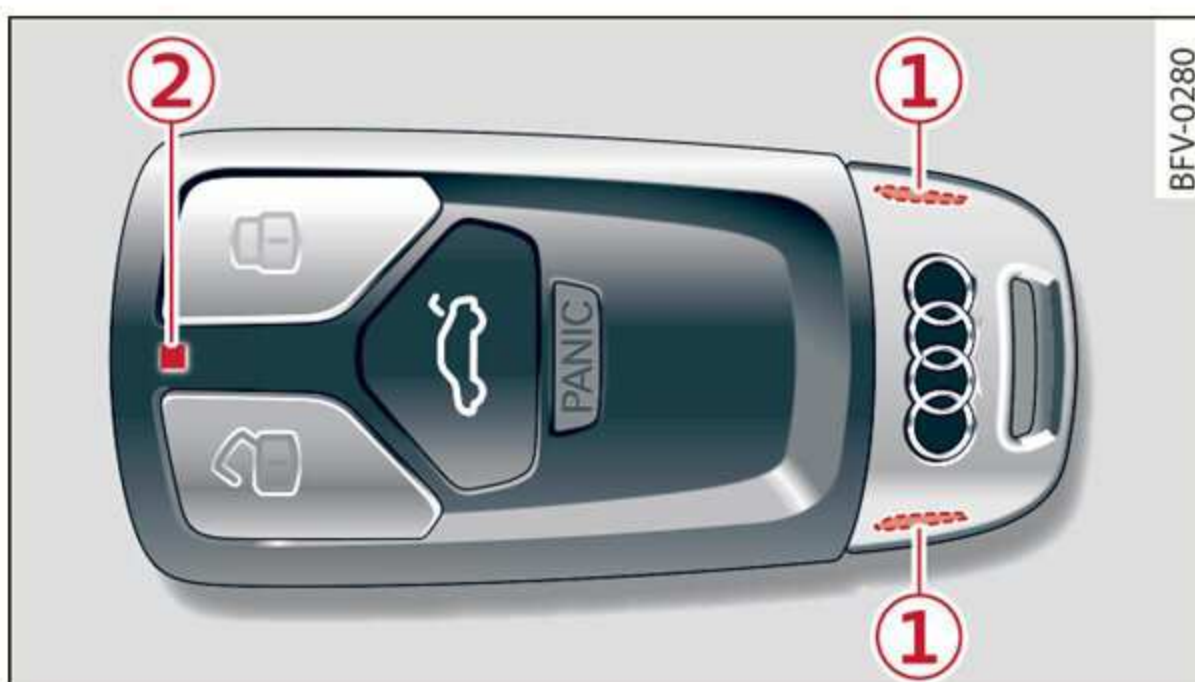

Fig. 13 Remote control key: removing the battery holder
- ▶ Press the release buttons ① ⇒ fig. 13 and remove the mechanical key.